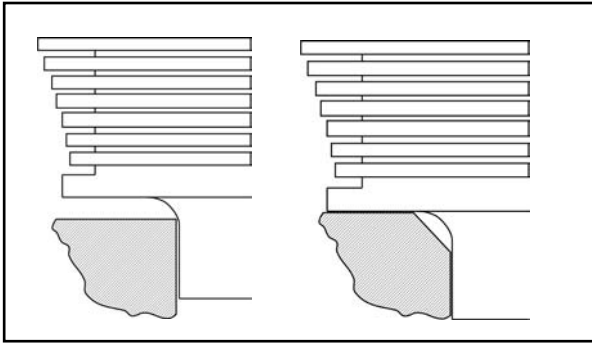

Figure 1
- I. Deburr and remove any nubs or protrusions which could accidentally break off. Break the corner on outside of spigot holes with a deburring tool. This insures that cylinder will not hang up during installation causing oil leaks due to inadequate gasket compression. **Figure 1** shows an exaggerated view.